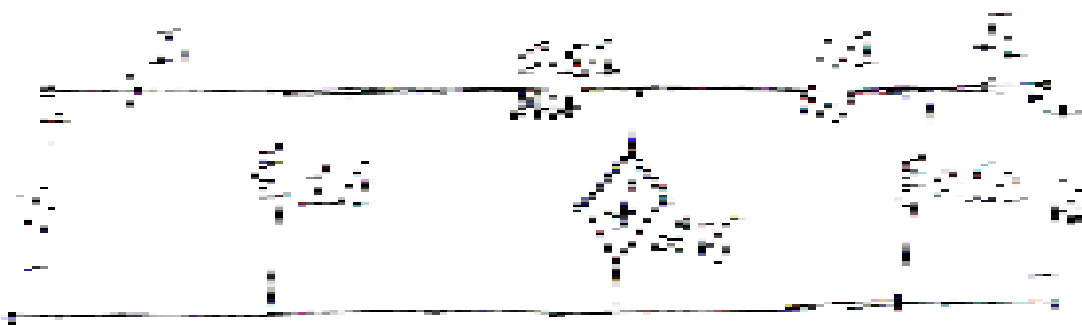

Fig. 3
- c) Obtain Z and Y parameters of the resistive network shown in Fig. 3. 8